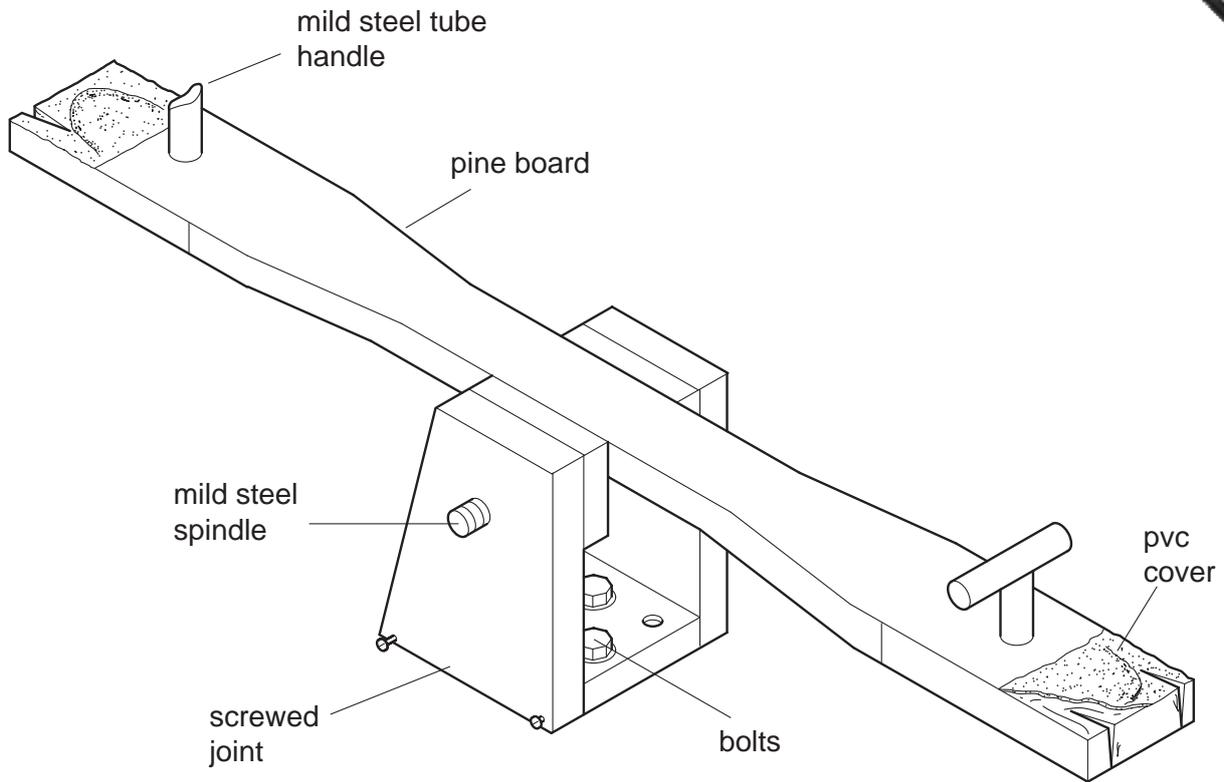

Fig. 8
- 15 A playground see-saw as shown in Fig. 8 is proving to be in a dangerous condition and needs to be replaced.
- (a) Identify and explain a potential danger associated with any **five** features named in Fig. 8. [5]